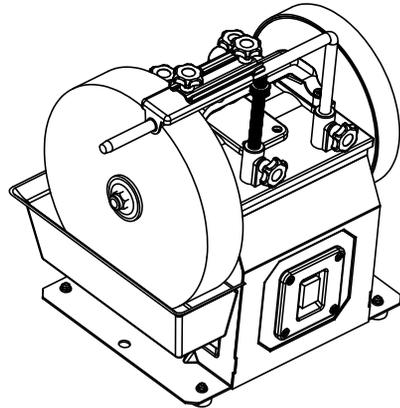

Figure 10
-When the size of grinding wheel reduce to 8inch , position the reservoir in the upper storage position by attaching it in the upper slot (see Figure 10).